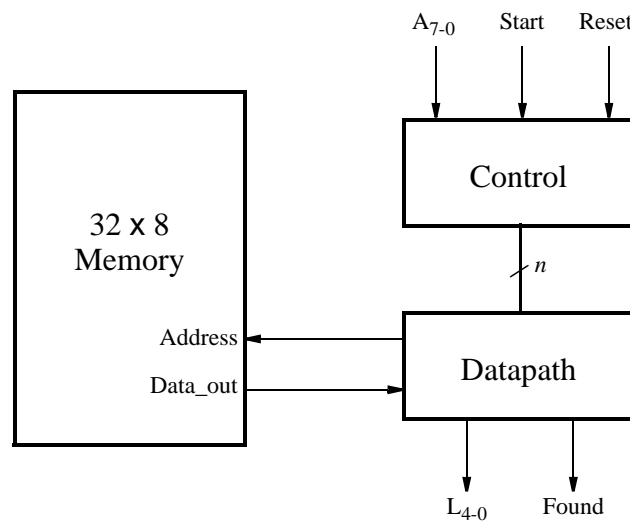

Figure 2: A block diagram for a circuit that performs a binary search.
We wish to implement a binary search algorithm, which searches through an array to locate an 8-bit value A specified via switches SW_{7-0} . A block diagram for the circuit is shown in Figure 2.
3. Connect your FSM and datapath to the memory block as indicated in Figure 2.